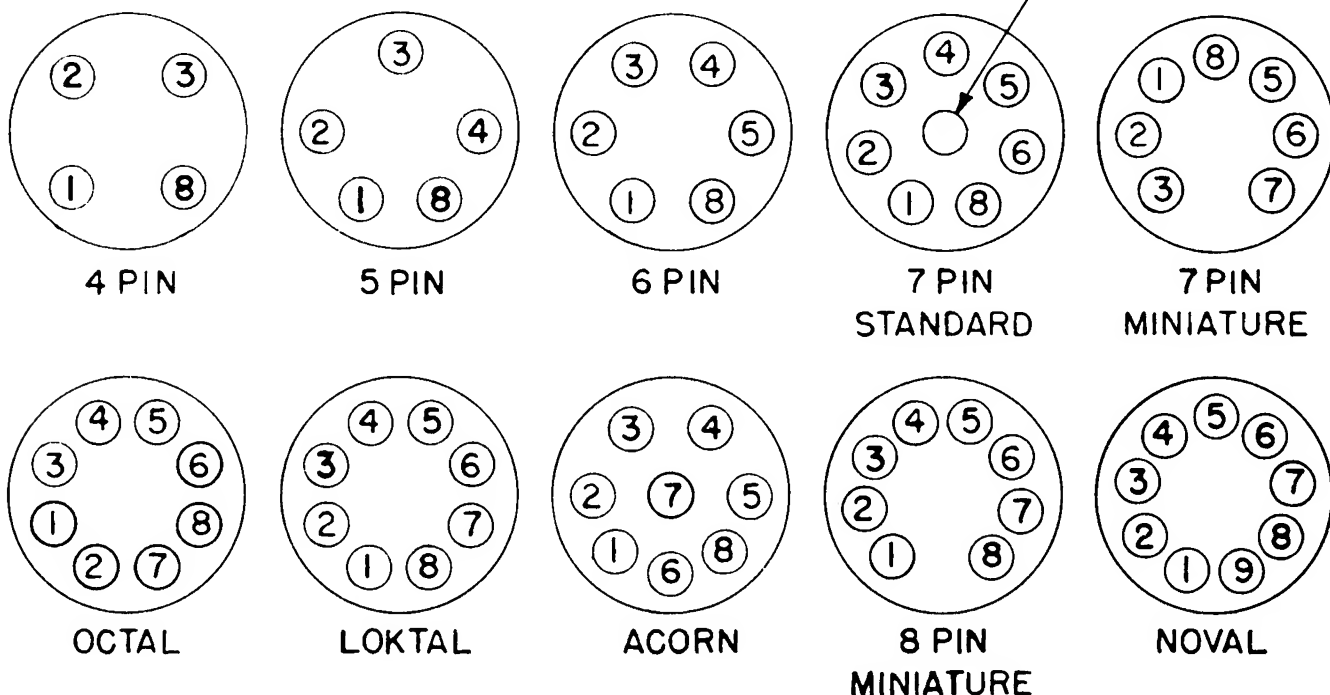

Figure 4-2. Socket Numbering
(26) **SOCKET NUMBERING.** In order to reduce dialing to a minimum the socket contacts are numbered as shown on Figure 4-2 which shows the bottom views. The numerical values of the lettered dials are as shown in Table 4-2.